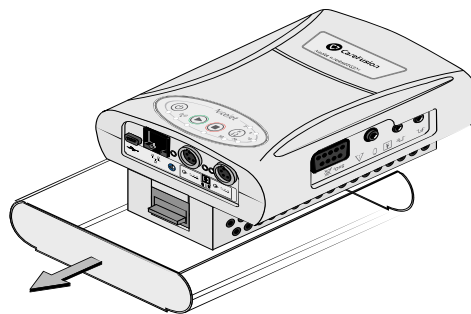

Figure 1
3. Carefully slide the plastic shield backwards off the amplifier (Figure 1) and set it aside.